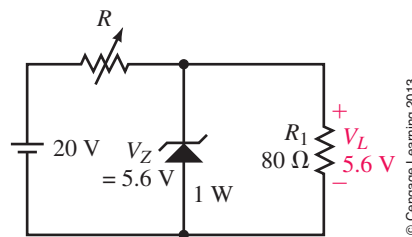

FIGURE 7–63
- Given the circuit of Figure 7–64, determine V_B , I_C , and V_{CE} .